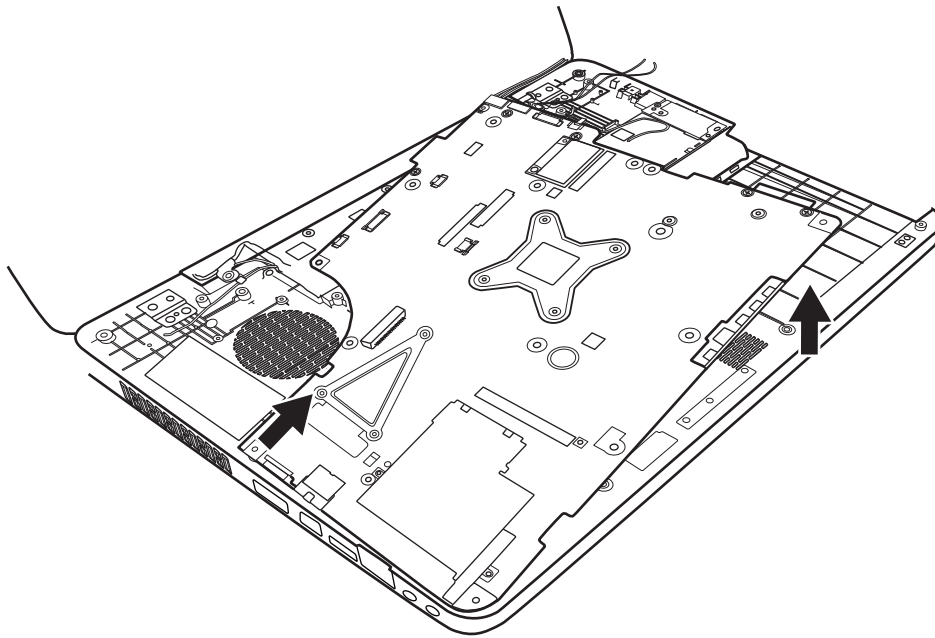

Figure 4.21 Picking up the motherboard
3. Use your hands to pick up the motherboard in the direction of the arrows as shown in figure 4.21.